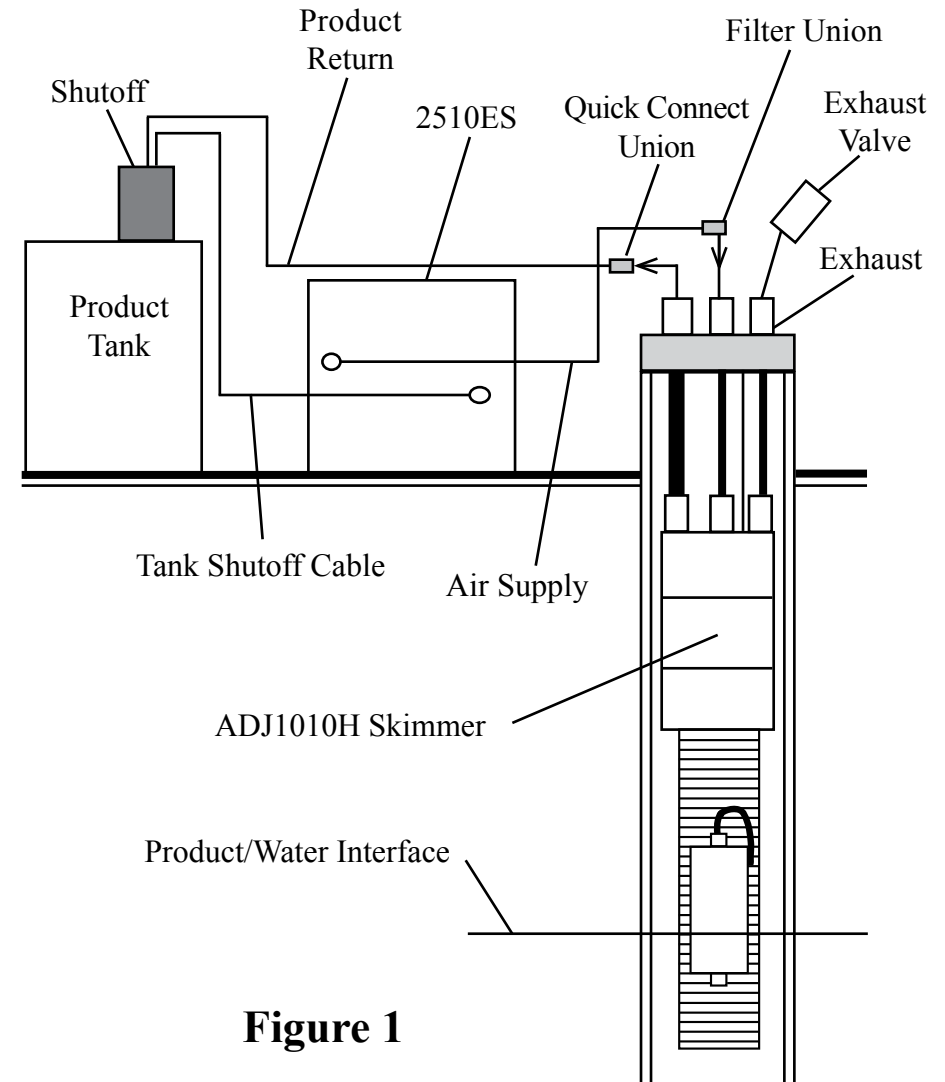
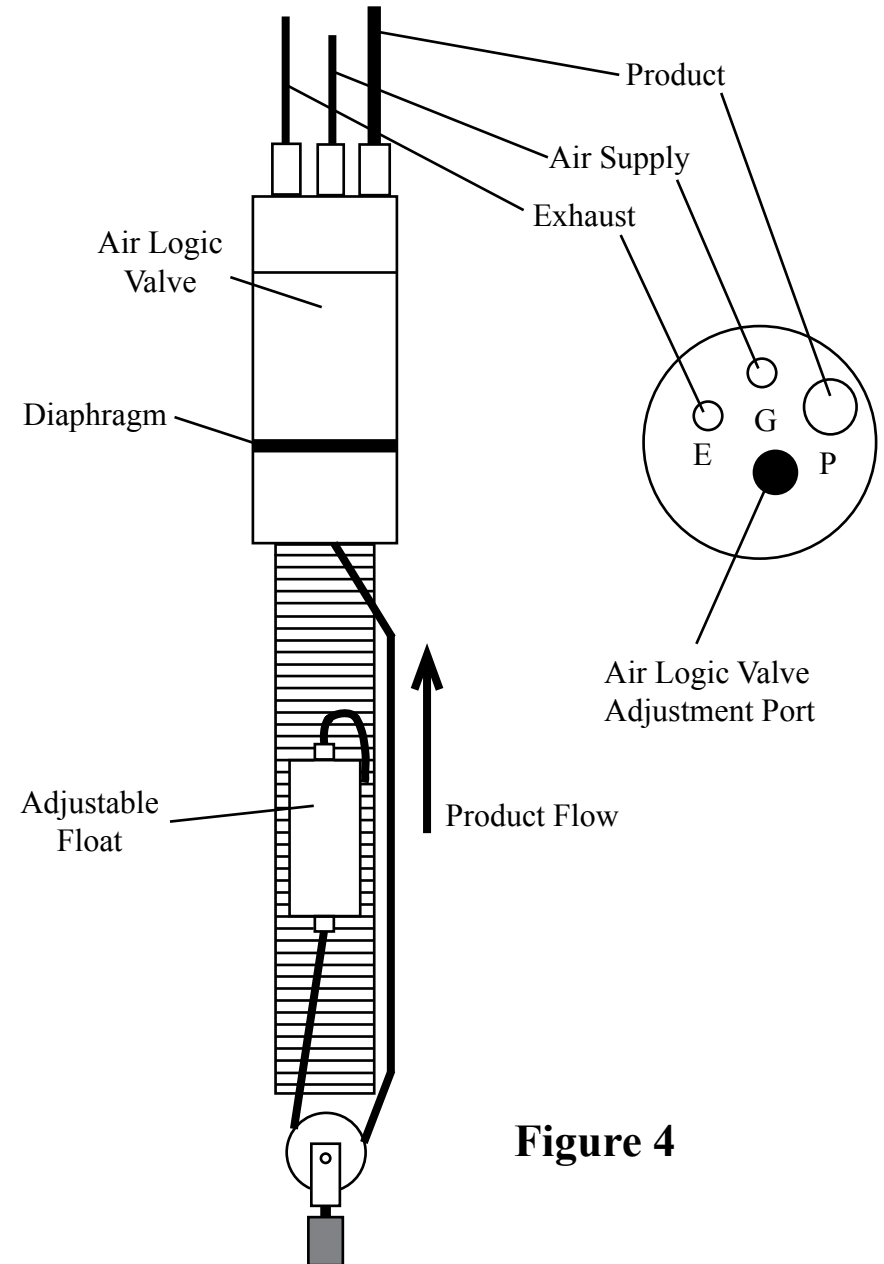

Figure 1
Figure 4
The system (Figures 1 and 2) relates to a heavy oil recovery system for wells four inches in diameter and larger. This system includes: an intrinsically safe ADJ1010H pneumatic Smart Skimmer, with an adjustable float (Figure 4), which removes heavy oil up to 200 feet deep; and an electronic Control Station Model 2510ES which operates the skimmer intermittently, records run time, and has a high level tank shutoff.
STEP 1. Place electronic Control Station Model 2510ES (Figure 1) near the air source, power source, and holding tank if possible. **CAUTION:** The standard electronic controller is NOT intrinsically safe. If this controller must operate in a CLASS I area, the XITECH Model 2550ES CLASS I controller will be required.
STEP 2. Install holding tank shutoff assembly into holding tank (a 2" standard pipe inlet will be required in the holding tank). The level of product in the holding tank can be set by raising or lowering the liquid level float switch rod. Plug the high level shutoff switch cable connector into the left end of the controller (Figure 1).
STEP 3. Attach power line from the AC power source to the right end of the control station (Figure 1). Turn on the controller power switch. If the red "Product Tank Full" light stays on, you have a problem with tank shutoff wiring. Turn off the power switch and re-check the tank shutoff wiring. If the light continues to stay on, call the factory.
STEP 7. Position the skimmer and well cap on the ground near the well. **NOTE:** If the skimmer is over 60 feet deep, use a vented design skimmer. Cut a length of 3/8" OD air supply tubing to cover the distance from the top of the well down to water/product interface, plus 5 feet. Slide enough tubing through the well cap and attach the end of the tubing to the top of the skimmer tube fitting labeled "G" (Figure 4). If the product thickness is greater than 1 foot, position the center of the skimmer screen 1 foot below top of product. If the product thickness is less than 1 foot, position the center of the skimmer screen at the water/product interface.
STEP 8. Cut a length of 1/2" OD product tubing same length as the air supply line. Install 1/2" OD product tubing through the well cap tube fitting labeled "P" (Figure 4). Slide enough tubing through the well cap and attach the end of the tubing to the top of the skimmer tube fitting labeled "P". **CAUTION:** Do not kink the tubing.